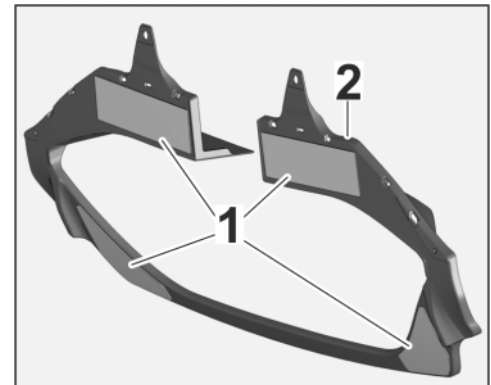

Figure 23
- 4.1.6 Pull protective film ( $\Rightarrow$  *Figure 23 -1-*) off the reinforcement ( $\Rightarrow$  *Figure 23-2-*).